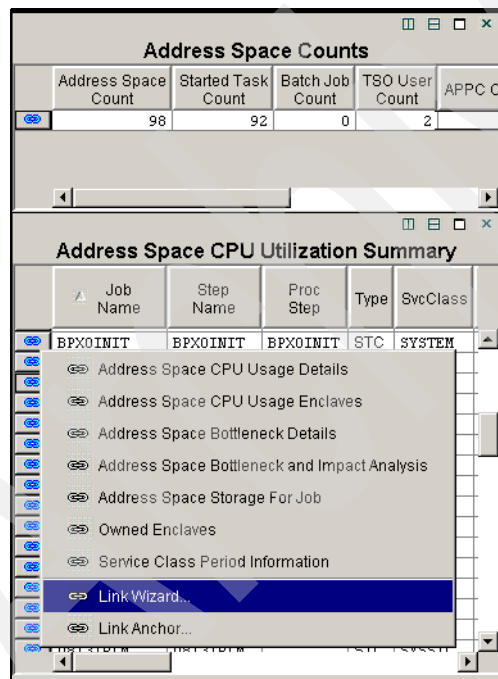

Figure 6-3 Links
Figure 6-3 shows an example of links provided by IBM Tivoli OMEGAMON XE. Notice that all existing links, as well as the Link Wizard and Link Anchor facilities, are available from pop-ups. Also notice that when the link source is a tabular view, the link symbol is inserted to the left of the data rows.
- ▶ A table row in a tabular view. As shown in Figure 6-3, when a link exists in a tabular view, the link symbol is inserted in the far-left column.
3. Right-click and launch **Link Wizard** from the context menu shown in Figure 6-3 on page 197.